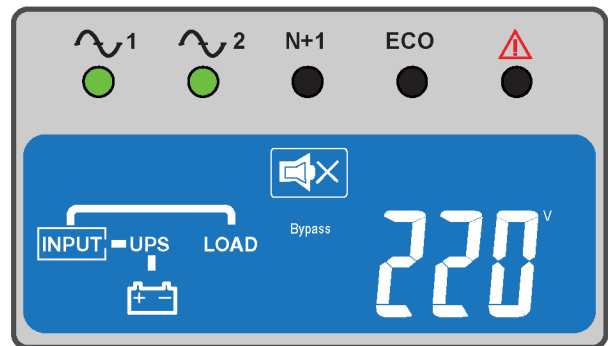

Figure 4.2 UPS BYPASS VOLTAGE
- b) The LCD screen will indicate the bypass supply voltage (Figure 4.2).